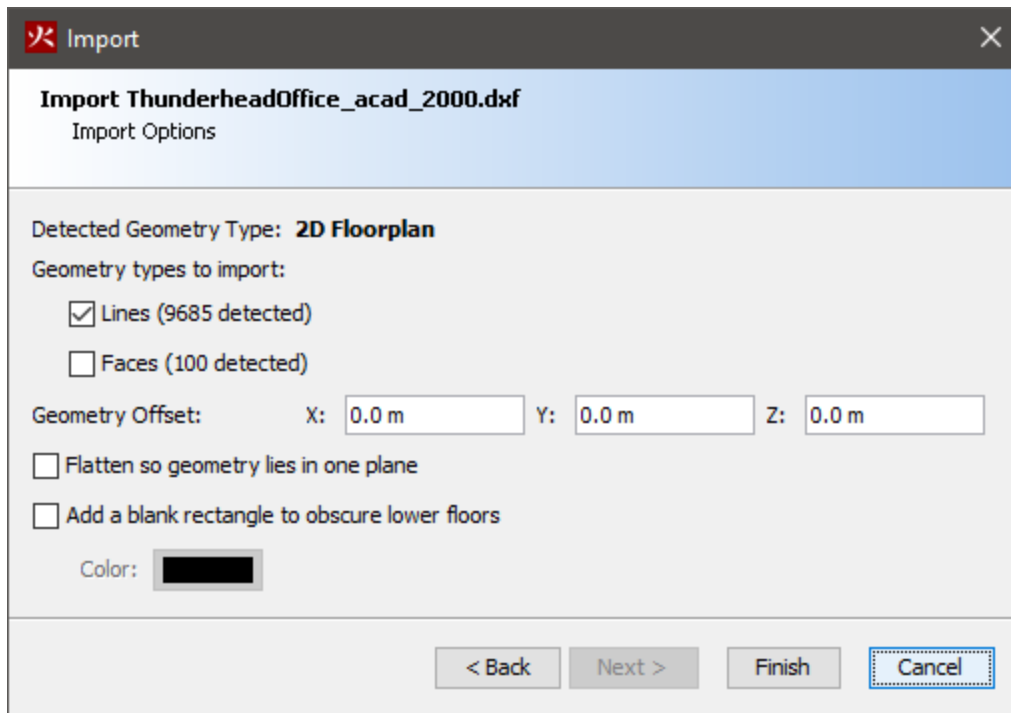

Figure 26. CAD import options
4. **Import Options:** This prompt allows the user to specify more options for import. Before this prompt is shown, PyroSim will attempt to discern if the CAD file contains a 2D Floorplan or a 3D Model and will select default values for the options based on the detected type, see Figure 26.